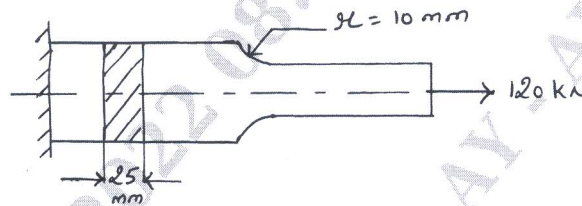

Fig.Q3(b)
- b. Find the value of the maximum stress induced on the fillet if the stress concentration factor for the filleted flat box shown in Fig.Q3(b) having a $\frac{D}{d}$ ratio of 1.2. Also determine the factor of safety if the flat box is made of steel having a yield stress of 640N/mm^2 . Thickness of the box is 25mm.